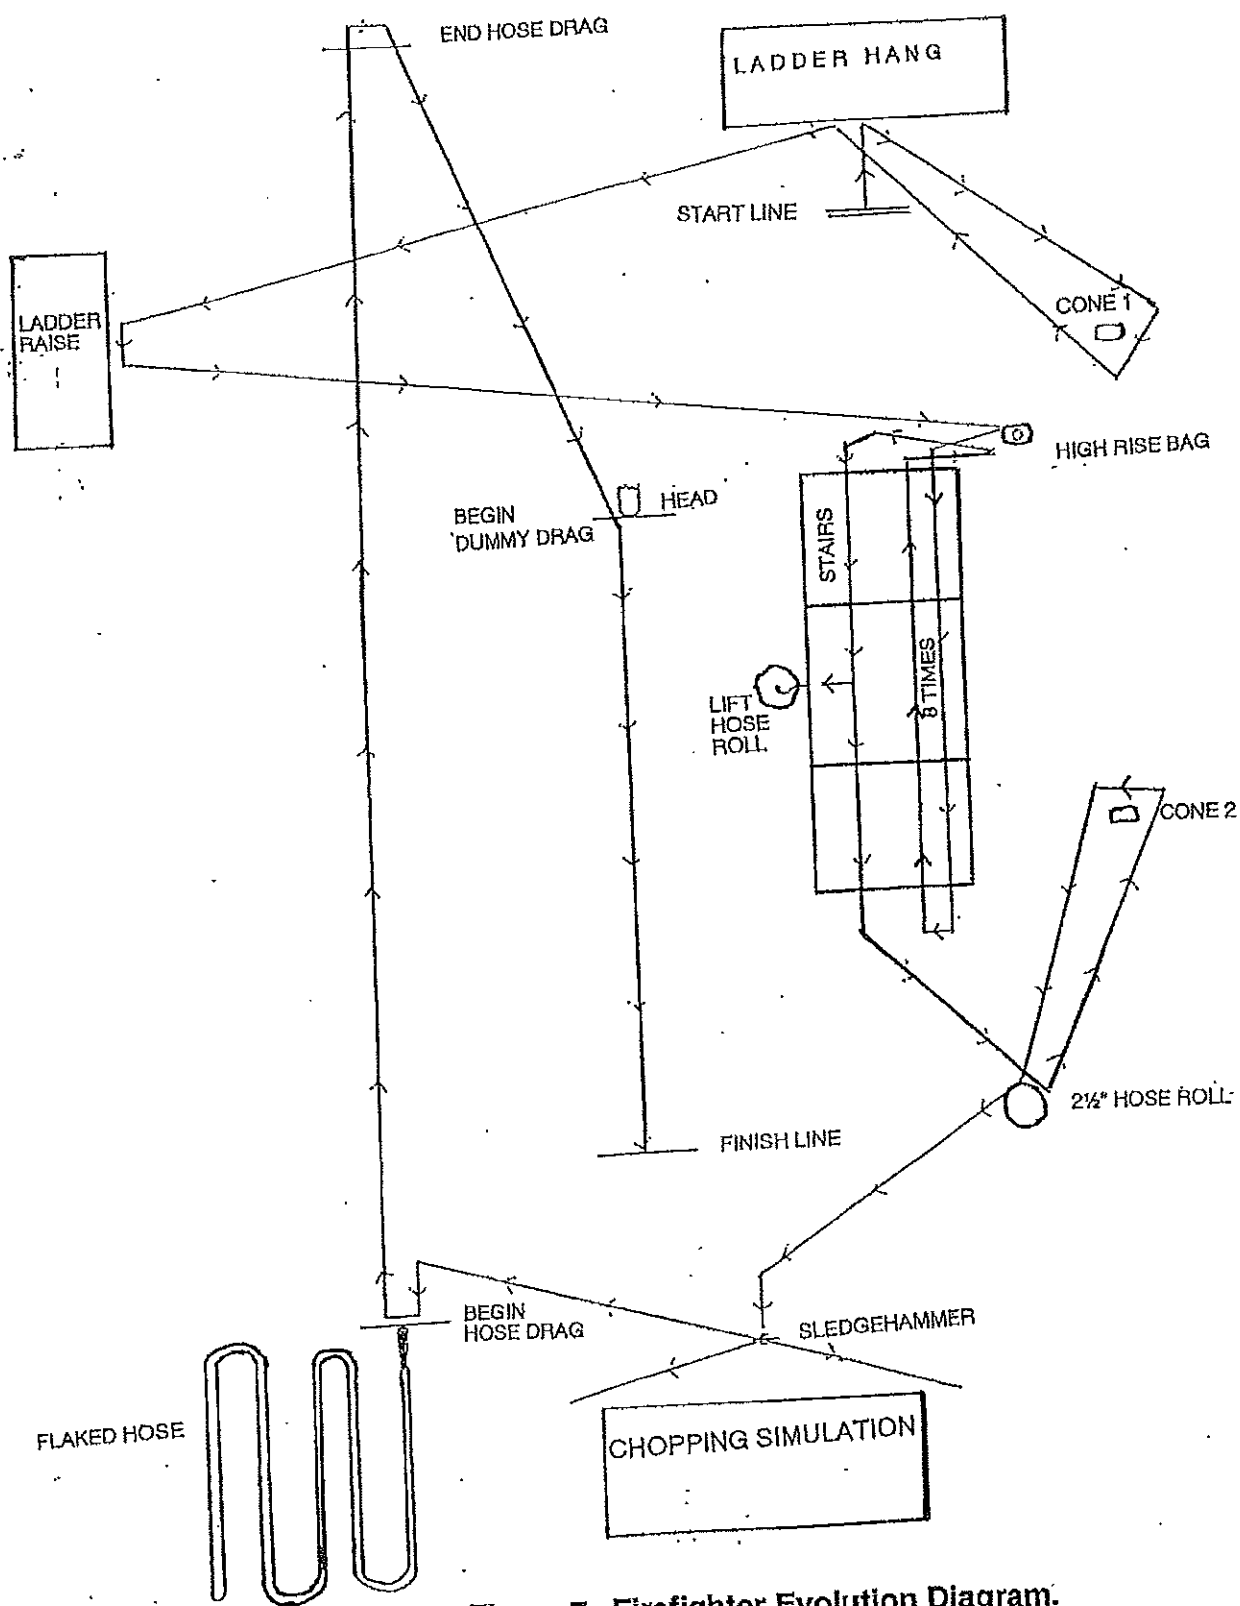
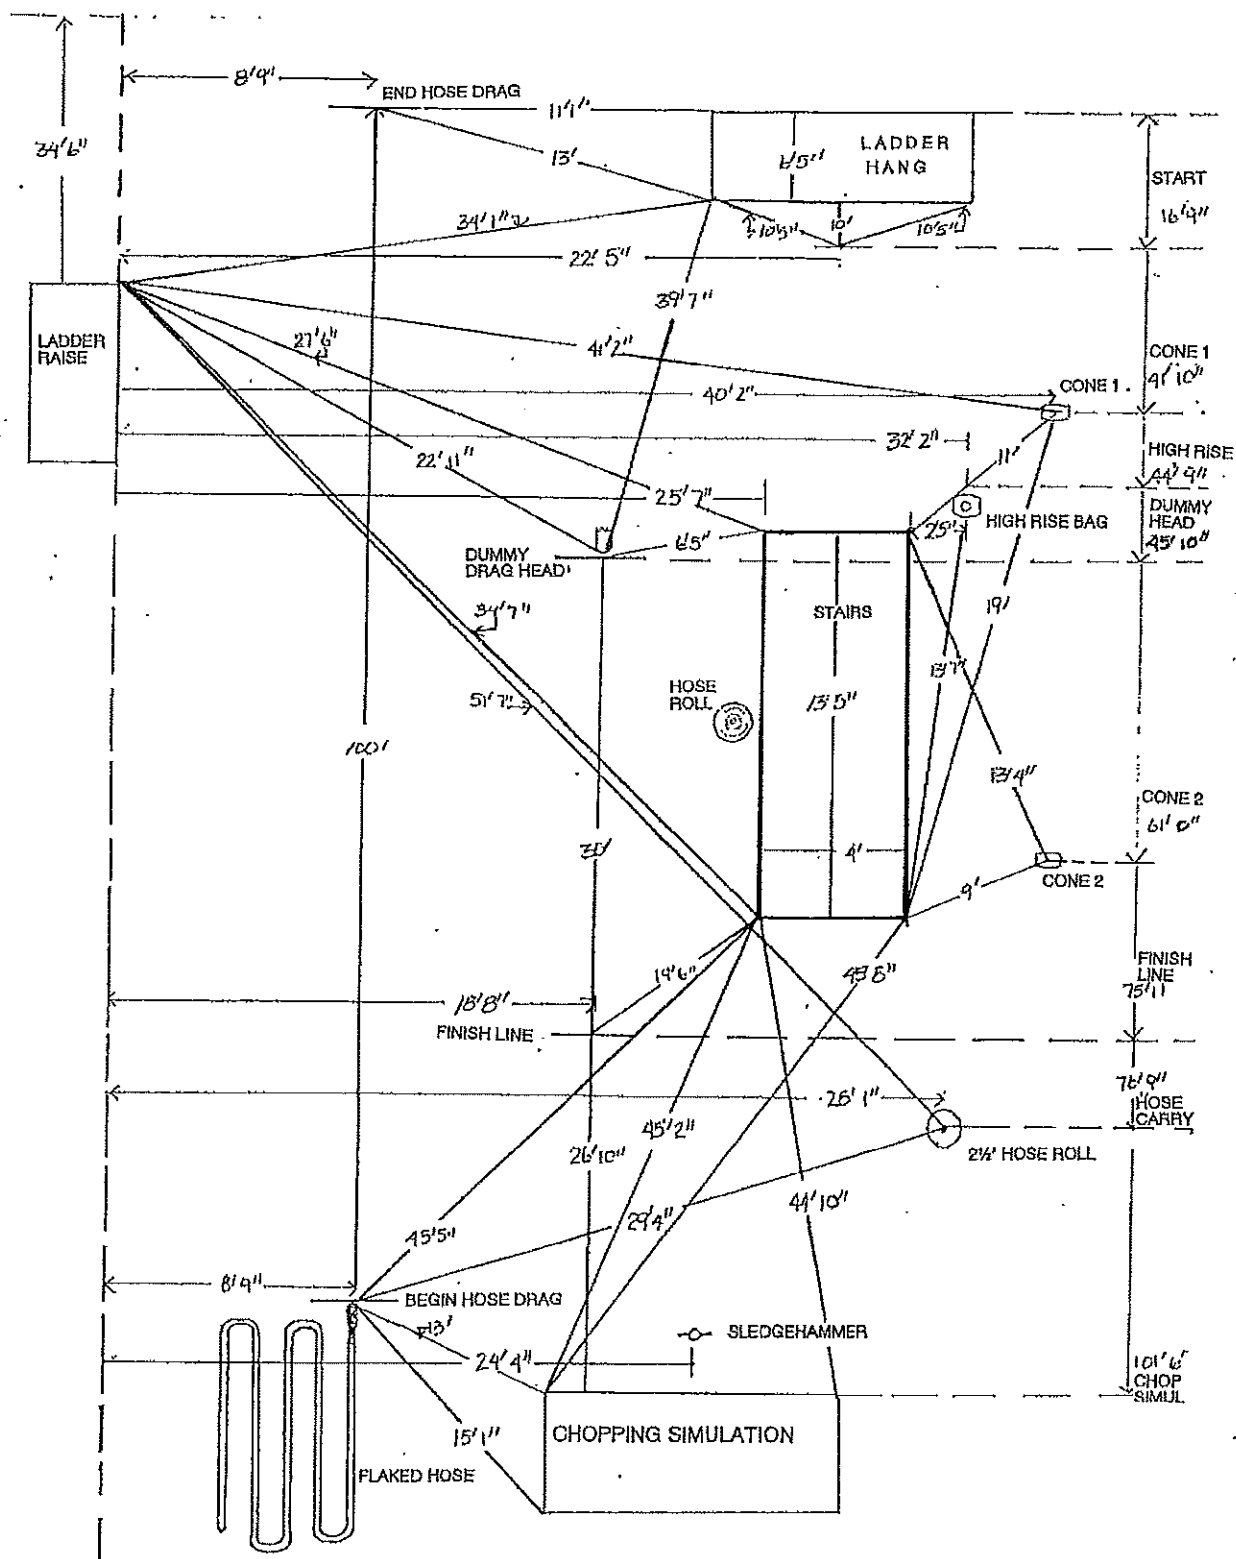

Figure 7. Firefighter Evolution Diagram.
Figure 8. Firefighter Evolution Set-Up Diagram.
1. Ensure that the course is set up as shown in Evolution diagram (Figure 7). Specific measurements and placement of all pieces of equipment are presented in Figure 8 (page 15). When setting up the evolution use Figure 8 to ensure the course is set up properly.
15. Reposition all components of the evolution as outlined in the Firefighter Evolution diagram (Figure 7) for the next examinee.